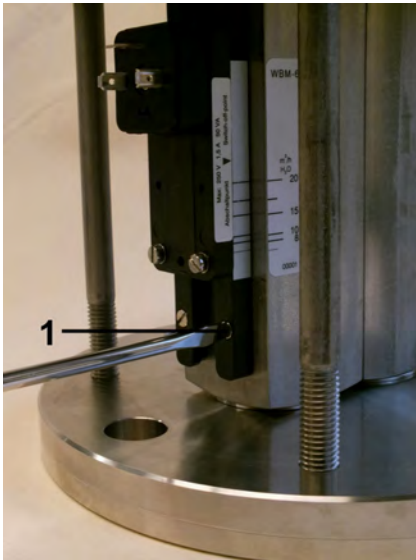

Fig. 76: Release the guide rail
- 4.**  Loosen one of the two screws (Fig. 76/1) of the guide rail using a flat-bladed screwdriver